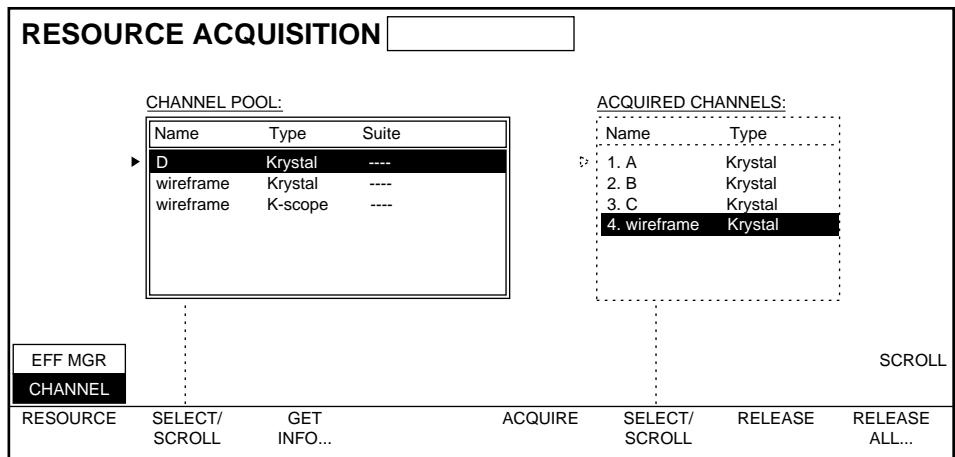

Figure 3-9. Multi Channel System, 3 of 4 Channels Acquired
- b. On multi-channel systems, Channels must be acquired with the Krystal Control Panel. Press RESOURCE to select CHANNEL, press the left SELECT/SCROLL to highlight the desired channel, and press ACQUIRE. You should acquire all the Video Processor Channels that will be used with that Control Panel (Figure 3-9).